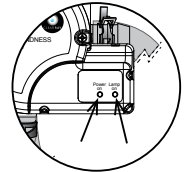

Figure 14.5g
- System Test 1:** Assure there is no water dripping from the seal compression nut (9). If water is visible, STOP and tighten the compression nut (9) using a pair of channel lock pliers to a maximum of 1/4 turn. If that does not fix the leak, then repeat quartz tube maintenance process from step 1 through step 11. Make sure there is no water leaking before proceeding to step 13.
14. Reconnect the UV bulb socket (6) to the power cord socket (4) make sure you use the latex glove provided when handling the UV bulb.
15. Slide the new UV bulb (7) back inside the quartz tube.
16. Reinstall the black bulb boot (5) back over the quartz seal compression nut (9).
17. Reinstall the enclosure cover (2) and secure with the screws.
19. Once power is activated you can check the ballast, Figure 14.5g, to see if the CLEARRAY System is functioning. The power on (red) light indicates that the CLEARRAY System is being provided power and should always be on. The lamp on (green) light indicates that UV bulb is activated.